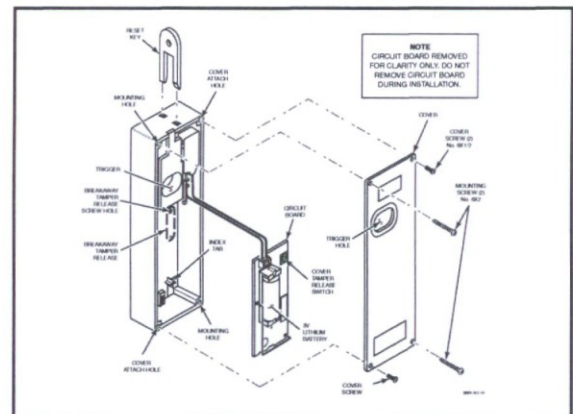

Figure 2
3. Drill a 1/16" pilot hole at the breakaway tamper release hole and the two case mounting holes (Figure 2).
7. Secure the assembled case to the counter or drawer using the two No. 6 x 2 mounting screws supplied (Figure 2).